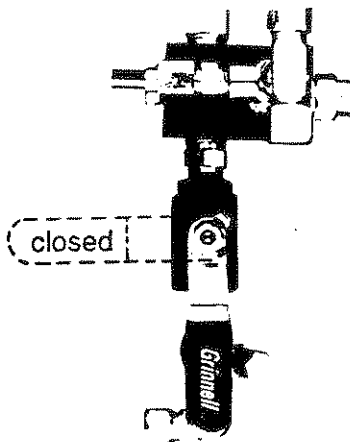

Fig. 12
1. Turn the ball valve to the "CLOSED" position, see Fig. 12.
5. After cleaning the bale chamber, turn the ball valve to the "OPEN" position, see Fig. 12. **NOTE:** Failure to do so will result in lack of density pressure.